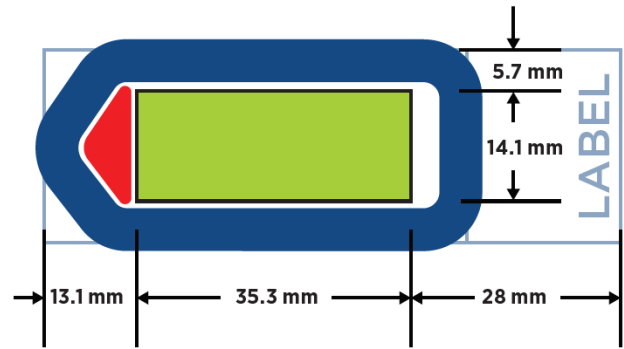

Figure 71: Slide dimensions
- Tissue sections must be placed in the **Scan Area** (shown in green) (see Figure 71) in the center of the slide and be **no larger than 35.3 mm long by 14.1 mm wide**. They should not overlap the slide gasket or the Tip Calibration area (shown in red). Tissues that will be prepared using the BOND RX/RX^m must also fit within the white dots on the Apex BOND slides. If mounting multiple sections per slide, ensure that tissues are at least 2–3 mm apart and still fit within the Scan Area.